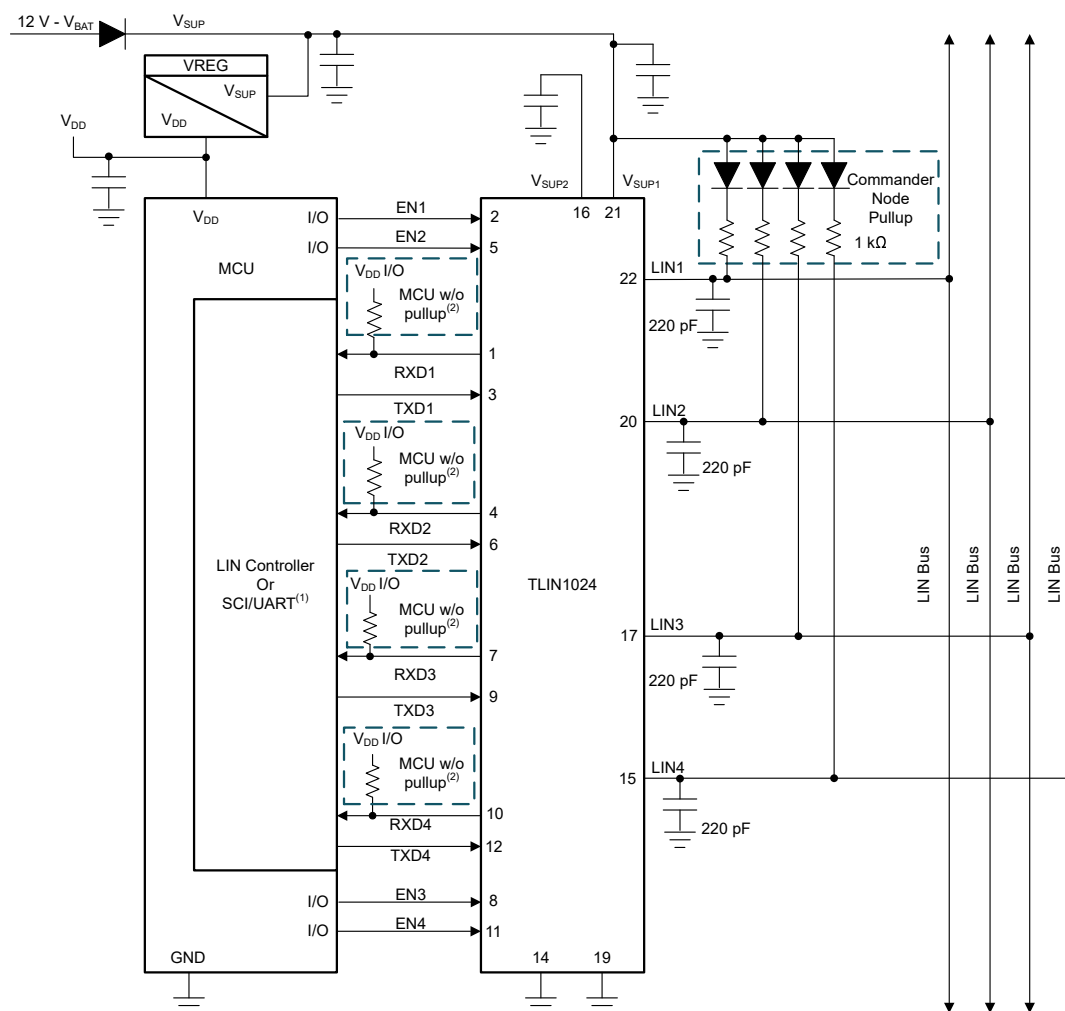

Figure 8-1. Typical LIN Bus
The device comes with an integrated 45 k Ω pull-up resistor and series diode for responder applications. For commander applications, an external 1 k Ω pull-up resistor with series blocking diode can be used. Figure 8-1 shows the device being used in both commander and responder applications.
- Pin 13, 18, 23 and 24 (NC):** Not Connected
- Pins 22, 20, 17 and 15 (LIN1/2/3/4):** This pin connects to the LIN bus. For responder applications a 220 pF capacitor to ground is implemented. For commander applications and additional series resistor and blocking diode should be placed between the LIN pin and the $V_{SUP1/2}$ pin. See Figure 8-1.